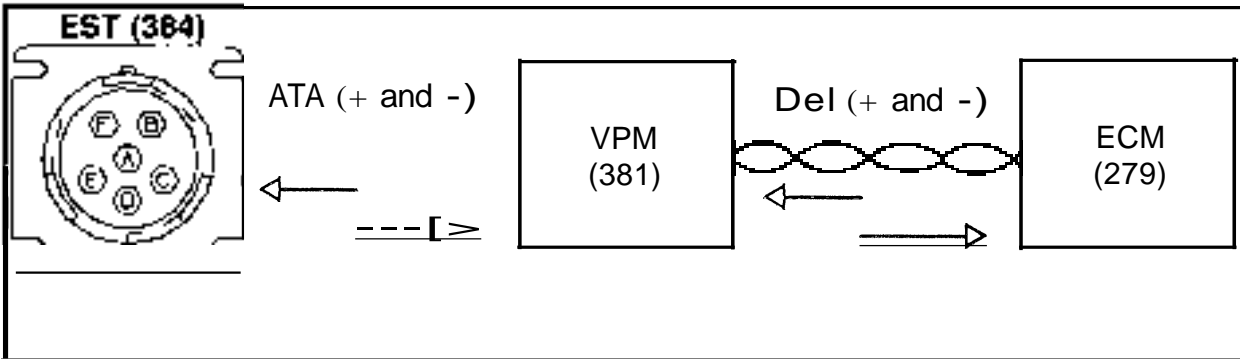

Figure 3.5-4. - ATA and DCI Communication
The Navistar engine control system includes the Electronic Control Module (ECM), Vehicle Personality Module (VPM), and Injector Driver Module (10M). Refer to Figure 3.5-4. for the following discussion.
The engine control system "communicates" with the Electronic Service Tool through connector (384) as shown in Figure 3.5-4. The EST communicates with the VPM using the American Trucking Association (ATA) data link lines(1).
EST connector (384) has six pins, labeled A through F, Figure 3.5-4. that provide the following:
- B. Connector (384) terminal A is connected by circuit 98B(+) to the positive RED ATA bus and EST connector (384) terminal B is connected by circuit 980(-) to the negative BLUE (428) bus. These two connections allow communication with all components connected to the data link at these same two busses.